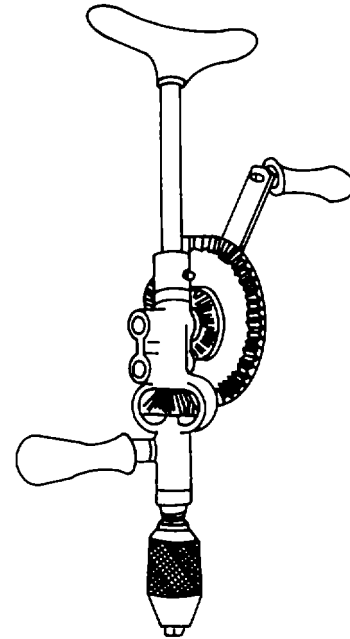

Figure 4-80. Breast Drill
- (1) *Breast drill.* The breast drill has a base for the user to lean against while using the drill. It has a speed shifter which provides a means of selecting low or high drill speeds. The low drill speed has a 1:1 gear ratio, and the high speed ratio is 3-1/2:1. This drill, shown in figure 4-80, is used to drill holes in wood, plastic, and small gauge sheet metal.